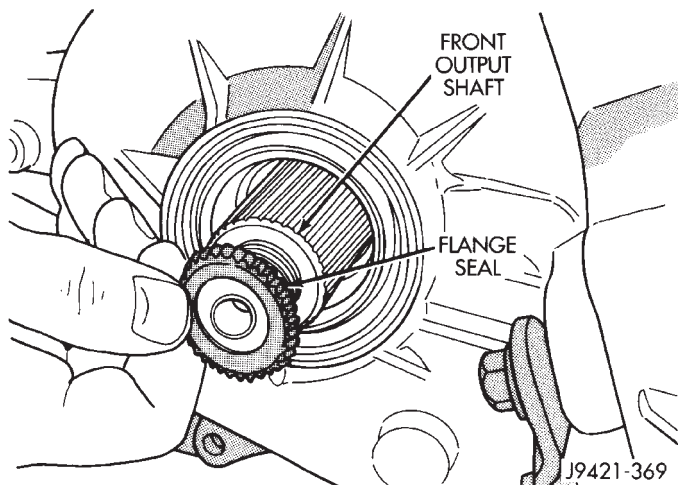

Fig. 12 Installing Flange Seal On Front Shaft
(2) Install companion flange seal on front shaft (Fig. 12).